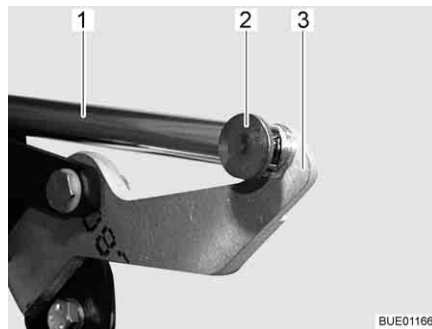

Fig. 107 Drive
- Remove the connection (e.g. splint and pin) (Fig. 107,2) between the push rod (Fig. 107,1) and lever (Fig. 107,3).